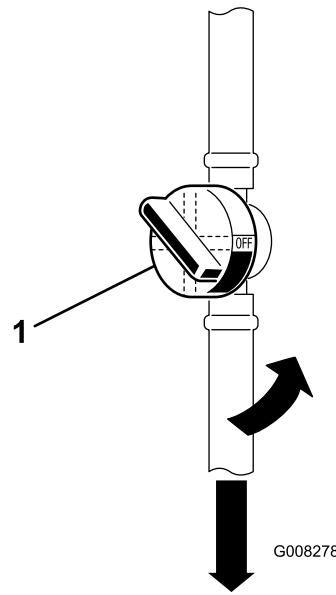

Figure 27
6. Close the fuel shut-off valve (Figure 27).
7. Squeeze the ends of the hose clamps together and slide them away from the old fuel filter (Figure 27).